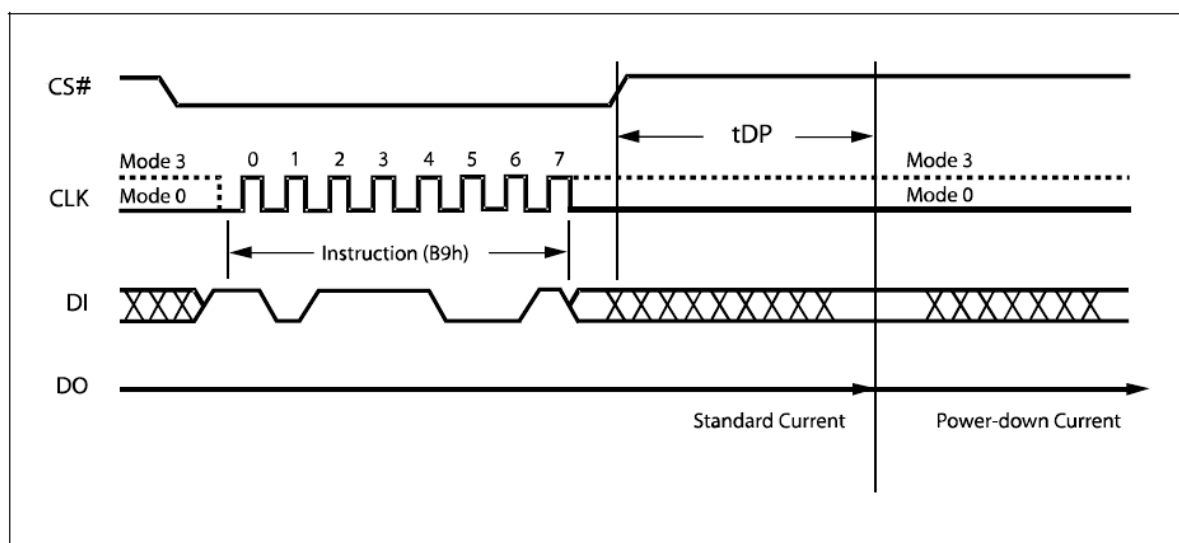

Figure 31. Deep Power-down Instruction Sequence Diagram
The instruction sequence is shown in Figure 31. Chip Select (CS#) must be driven High after the eighth bit of the instruction code has been latched in, otherwise the Deep Power-down (DP) instruction is not executed. As soon as Chip Select (CS#) is driven High, it requires a delay of t_{DP} before the supply current is reduced to I_{CC2} and the Deep Power-down mode is entered.